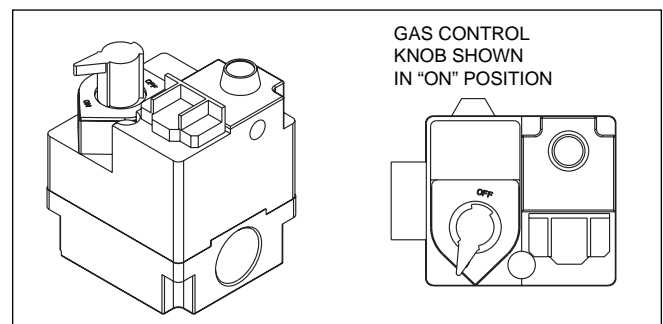

Figure 27. Gas valve.
5. Turn the gas valve control knob counterclockwise to ON (see Figure 27).